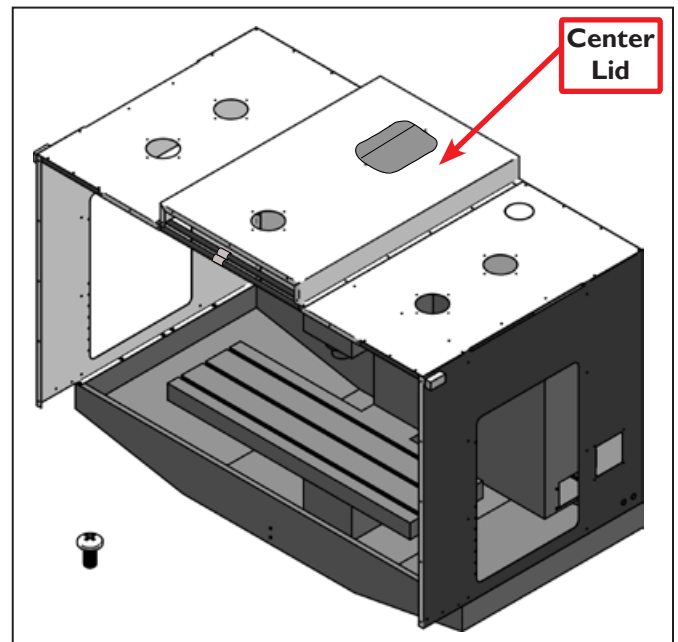

Figure 10
26. Place the Center Lid (E.22) on top of the left/right lids, and door support rods (see **Figure 10**). Loosely fasten with (F) screws along each side of the lid.